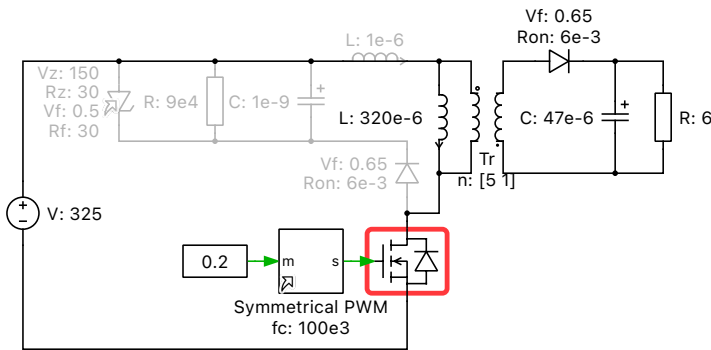

Figure 11: Flyback converter with a configurable MOSFET (tutorial stage 1)
- *Optional:* In the **Icon** tab of the mask window, an icon can be drawn using Lua syntax and the `PlecsIconLib` library. The documentation is available online. To draw the MOSFET as shown in Fig. 11, use the following lines of code:
The original MOSFET with Diode component has been replaced by a configurable subsystem. This subsystem enables switching between the PLECS-based and SPICE-based MOSFET models within the same schematic. Your model should match the one shown in Fig. 11, which is available in the file `flyback_converter_1.plecs`.